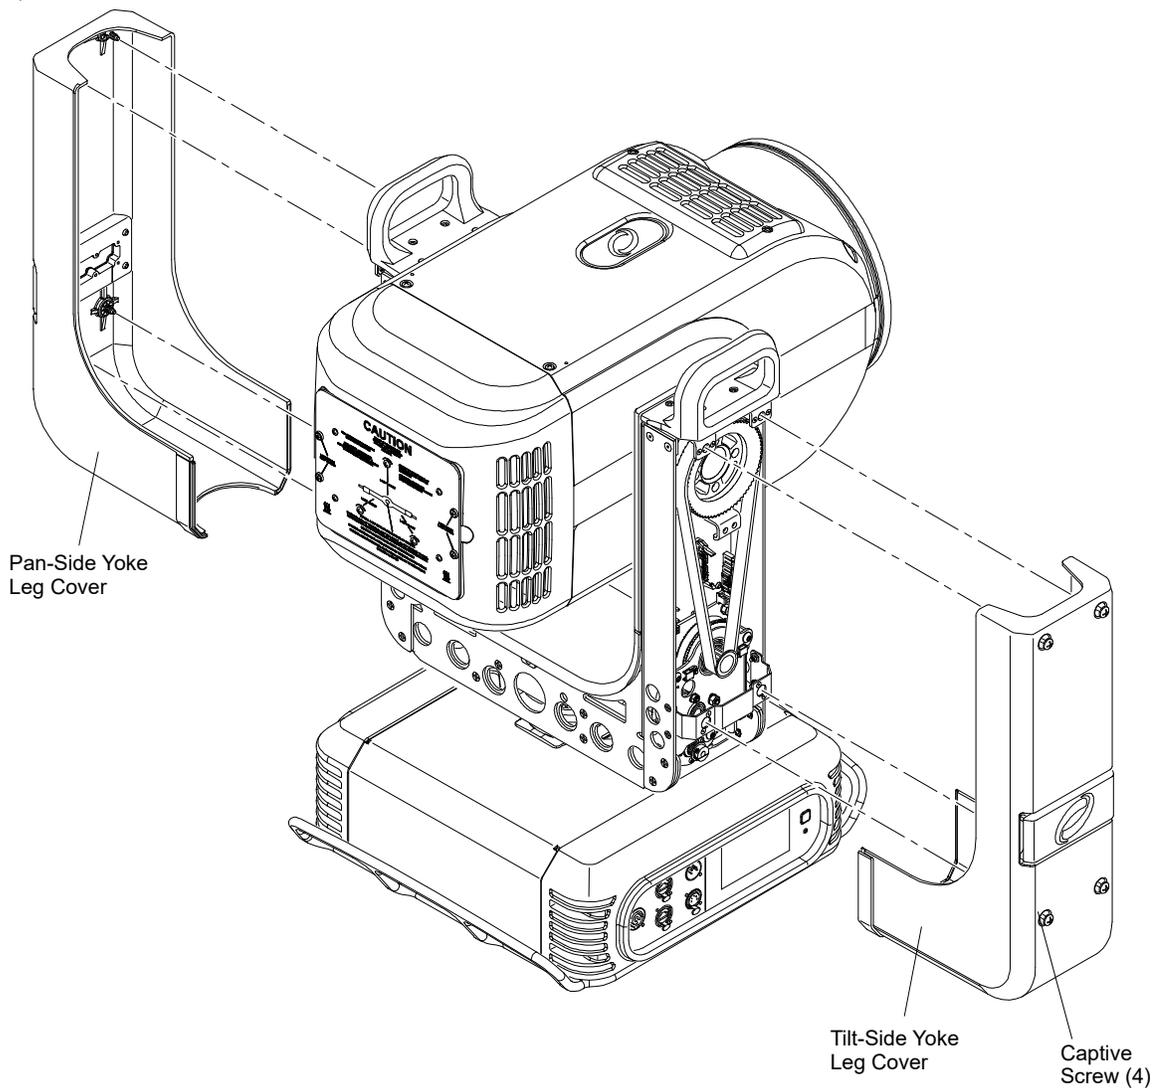

Figure 3-5: Removing Yoke Leg Covers
- Step 1. At yoke leg cover, loosen four captive screws (**Figure 3-5**).